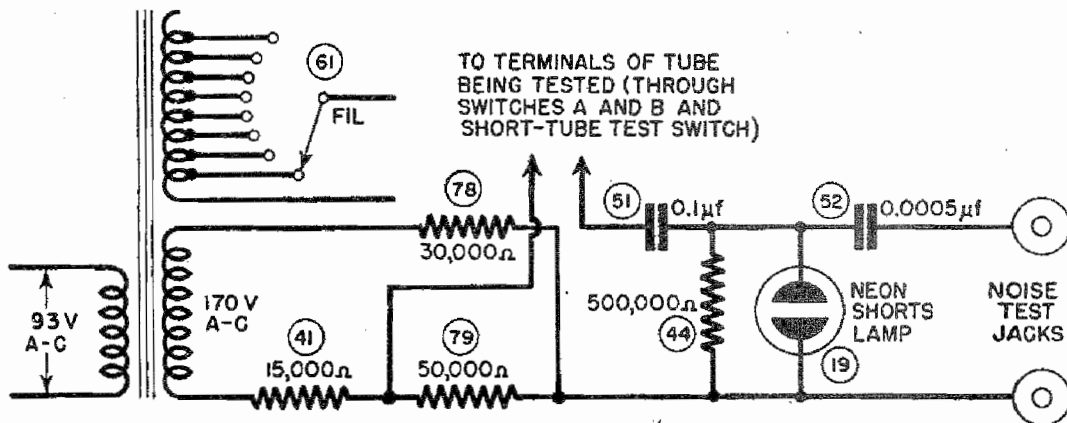

Figure 3. Tube Tester I-177, simplified noise and shorts test circuit. TL-14595
14. SHORT TEST (fig. 3). Turning the SHORT-TUBE TEST switch through positions 1, 2, 3, 4, and 5 connects various pairs of tube electrodes in turn across the test terminals of the circuit. Tubes having shorts between elements complete the circuit and apply transformer voltage to neon SHORTS lamp 19, causing it to glow. Good tubes do not complete the circuit, and the lamp does not glow. Switches A and B (not shown) provide the proper tube socket connections for the tube under test, and the FIL. switch connects the tube filament to the correct tap on the filament winding.
15. NOISE TEST (fig. 3). This circuit is also used for making a noise test of vacuum tubes. With the antenna and ground terminals of a radio receiver connected to the NOISE TEST jacks, any intermittent short between tube electrodes momentarily permits alternating voltage from the power transformer to be applied to the neon lamp, causing a brief oscillation that will be reproduced as an audible signal in the receiver speaker.